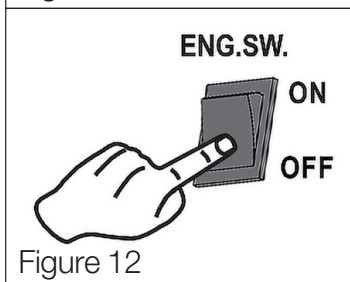

Figure 12
- Turn the engine ON/OFF switch to the “OFF” position (Fig. 12).